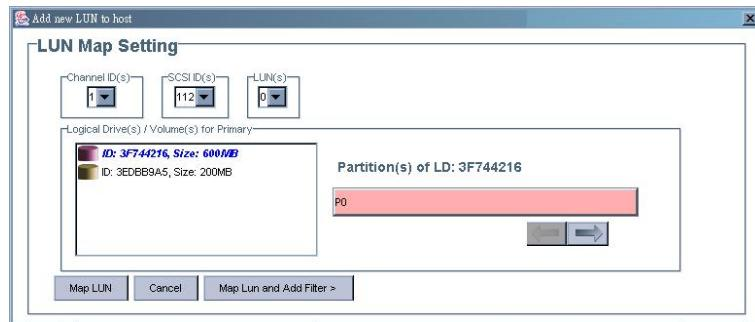

Figure 10-4: LUN Map Setting Window: Single Partition
**Step 5.** Click on the **Map LUN** button to complete the process. (See *Figure 10-4*)